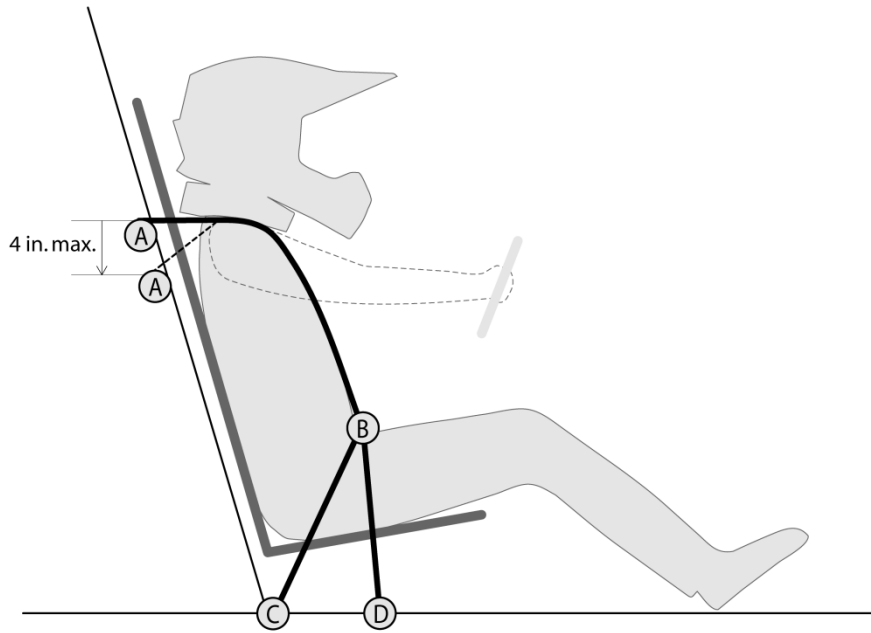

Figure B-27: Driver Harness, Shoulder Harness Vertical Position
The shoulder belt mounting point (A) (see Figure B-27) shall be positioned no higher than vertically level with each driver’s shoulders, and no lower than 102 mm (4.0 in.) vertically below each driver’s shoulders.